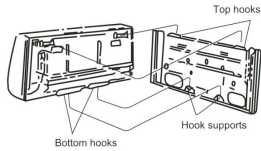
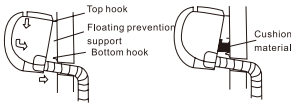

Fig12
Fig13
- Put the upper claw at the back of the indoor unit on the top hook of the installation plate, move the indoor unit from side to side to see that it is securely hooked (see Fig.12 and Fig13).